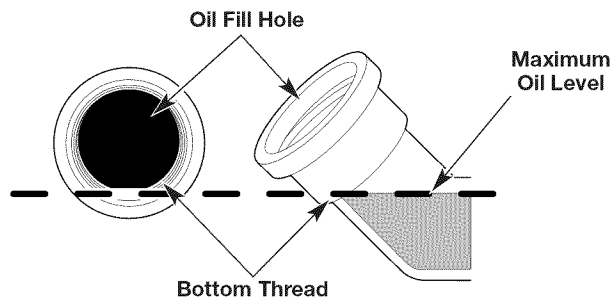

Fig. 16
5. Look into the oil fill hole; use a flashlight if necessary. **The oil level should just touch the bottom thread of the oil fill hole** (Fig. 16). If the oil level is too low, add oil to the oil fill hole until the oil level touches the bottom thread of the oil fill hole.